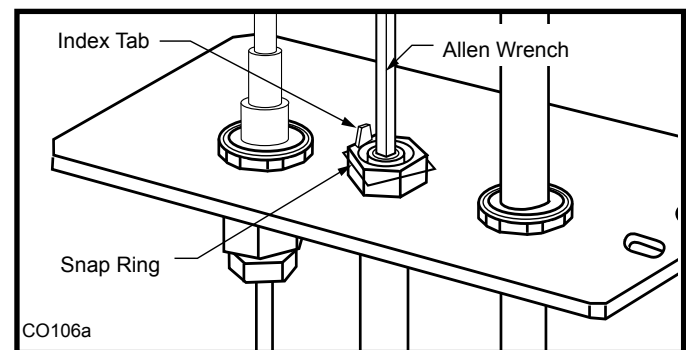

Fig. 80 Remove pilot orifice.
4. Remove pilot orifice with Allen wrench. (Fig. 80)